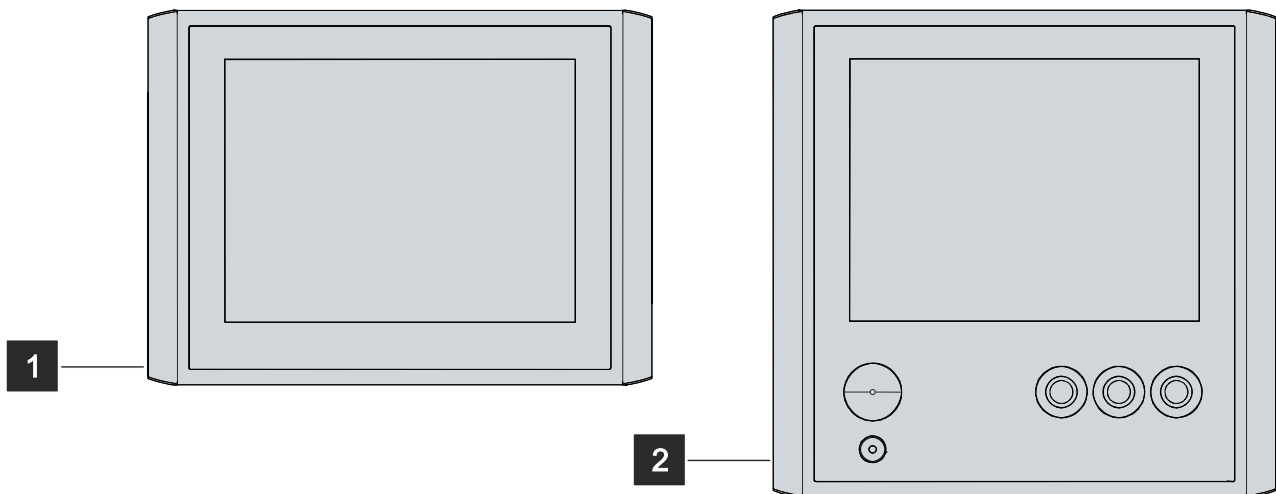

Fig. 1: CP79xx-14xx\_without and with push button extension
Figure 1 shows an example of a control panel without (1) and with (2) push button extension for all display sizes.